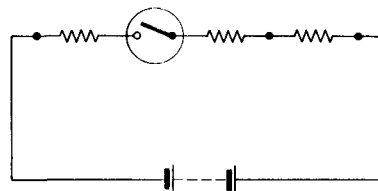

Fig. 2.81 One switch in a series circuit controls the entire circuit
In a series circuit the current must flow through each resistor in turn. This means that everywhere in the circuit the current must be the same. If one switch is placed in the circuit (Fig. 2.81) then this switch controls the whole circuit and it does not matter where it is placed.
1. In Fig. 2.81 the resistances are  $30\ \Omega$ ,  $20\ \Omega$  and  $50\ \Omega$  respectively. What is the total resistance?